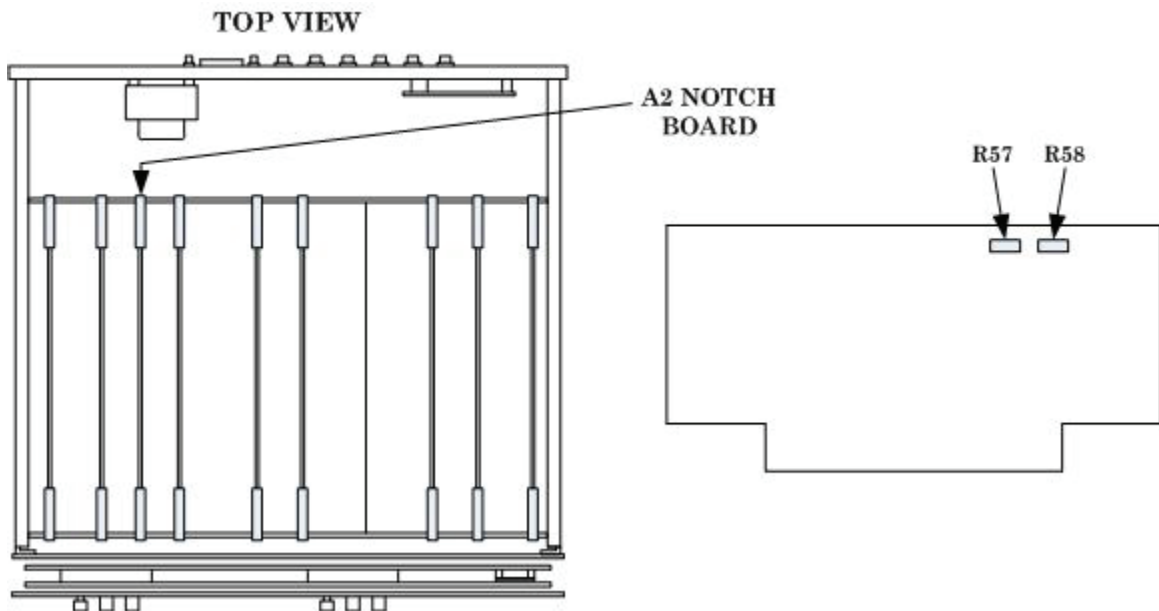

Figure 4. Distortion measurement – adjustment locations.
(1) Connect **TI OUTPUT HIGH** to **INPUT HIGH** and **OUTPUT LOW** to **INPUT LOW**.
(2) Press keys and enter values using **DATA ENTRY** keys as listed in (a) through (d) below:
(3) Adjust A2R57 and A2R58 (fig. 4) for minimum distortion indication on TI.